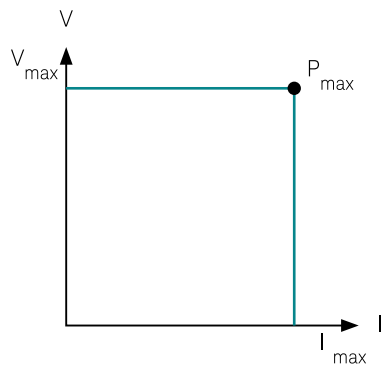

Figure 5. A rectangular output characteristic has a single maximum power point
1. **Rectangular output:** The most common output characteristic is rectangular or single range. All voltage and current combinations are valid up to the maximum voltage and maximum current; see Figure 5.